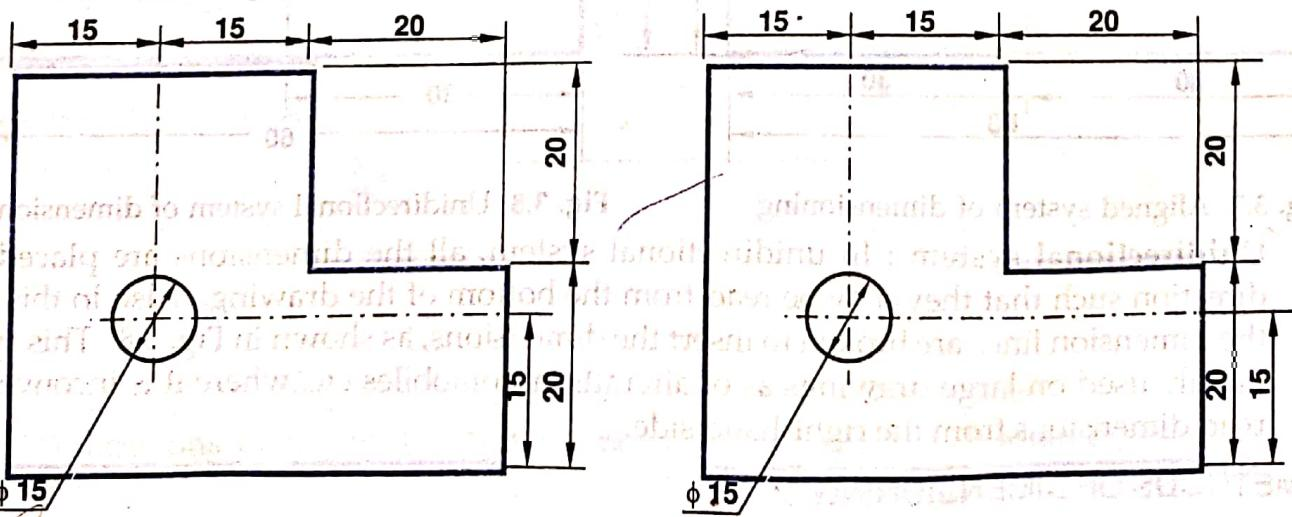

Fig. 3.4 Placing of projection and dimension lines
- (ii) Mutual crossing of dimension and projection lines should be avoided. See Fig. 3.4.